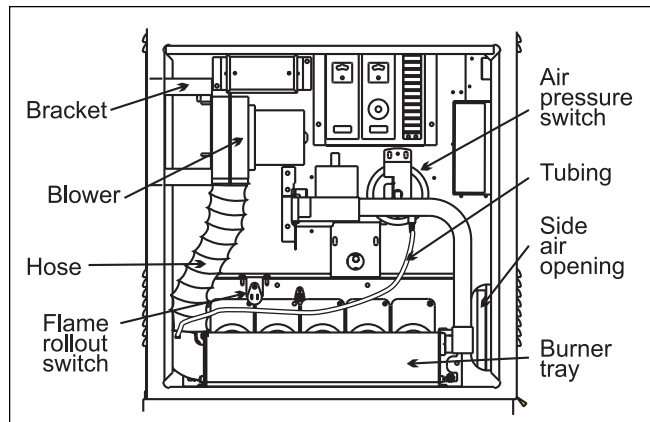

Figure 39. Controls Location.
2. Disconnect the air hose from the air blower (see Figure 39) and from the air inlet elbow.
3. Remove the screws holding the blower bracket (see Figure 39) off the inner front panel.